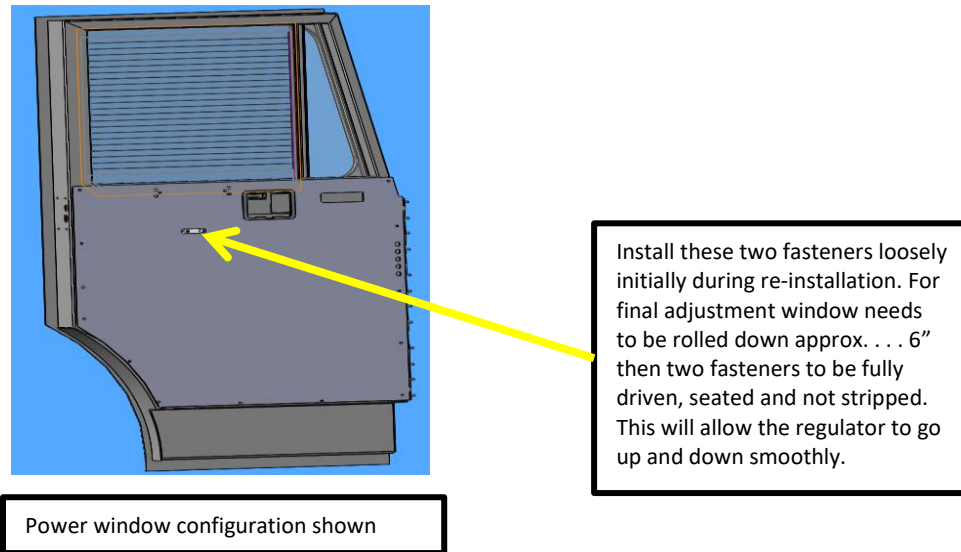

FIG. 12-1
12. For power window regulator alignment Refer to FIG 12-1.